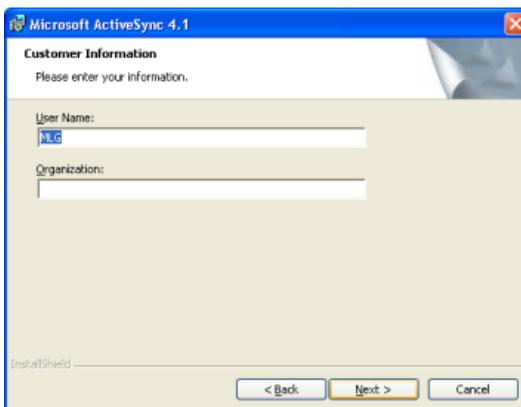

Figure 7.43
In the next window (see Figure 7.43), you should enter user's data and press the button [NEXT].
7.8.1.3 At each connection with the KI 6700 the window shown in Figure 7.43 will appear on the PC's screen. Choose in this window the line No and press the button [Next]. The window shown in Figure 7.49 appears on the screen.